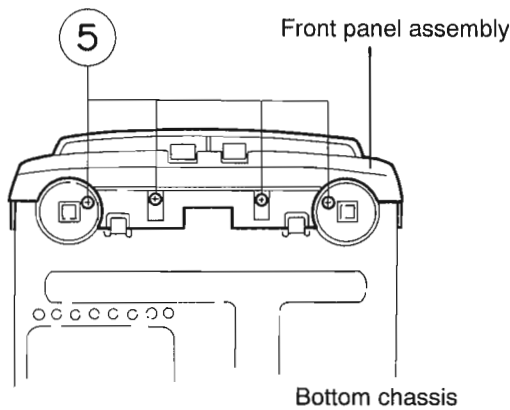

Fig. 3-5
4. Remove the four screws (5) fastening the front panel assembly to the side of the main unit. (See Fig. 3-5)